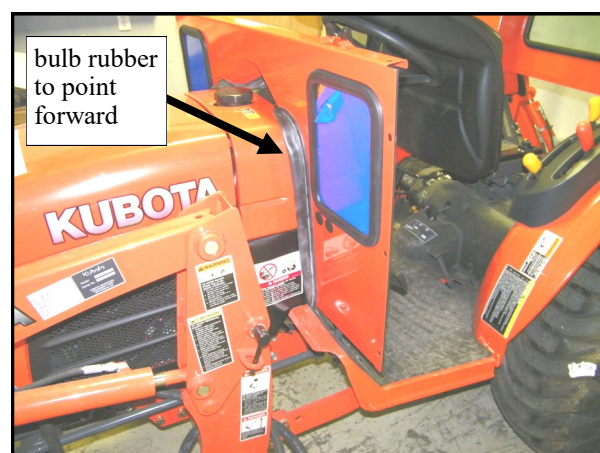
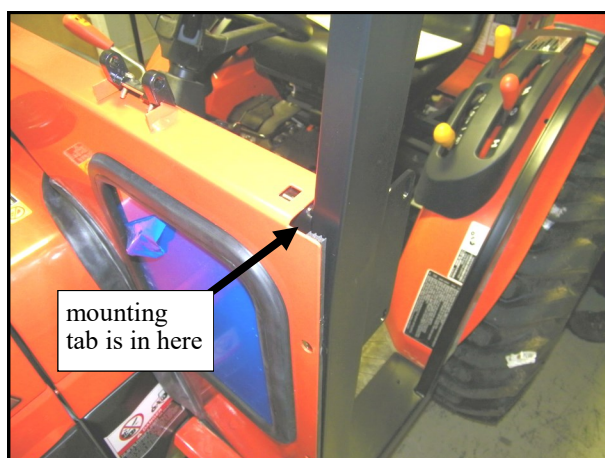
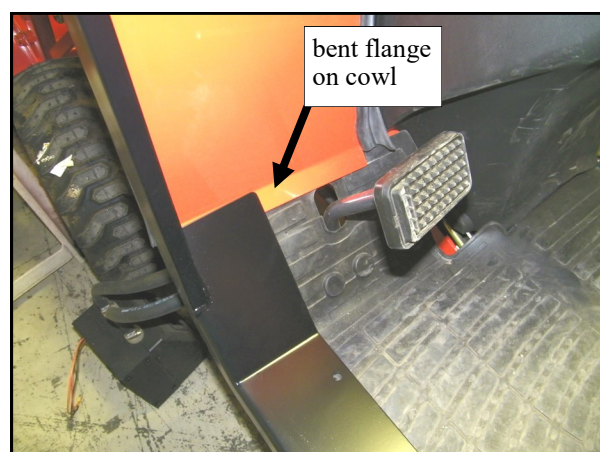

Fig. 5.1 (view from front left side of tractor)
Fig. 6.1.1 (view from front left side of tractor)
Fig. 6.1 (view from rear left side of tractor)
5.1 Per fig. 5.1, position the cowl over the hood of the tractor oriented so the top channel bend is towards the rear of the tractor (fig. 6.1.1 also shows the orientation). The bulb rubber seal around the hood area should be positioned to point forward. As shown in fig. 6.1, the lower bent flange on the cowl sits on top of the rubber floor mat (not under it).
6.1 Per fig. 6.1, install the left side frame so the floorboard sits on top of the rubber floor mat and on top of the bent flange on the lower portion of the orange cowl as shown. Per fig. 6.1.1, the mounting tab that is welded on to the side frame fits into the bent channel on the cowl as shown. The bulb rubber that seals against the rear fender should be pointing outboard to minimize covering the factory installed decals.